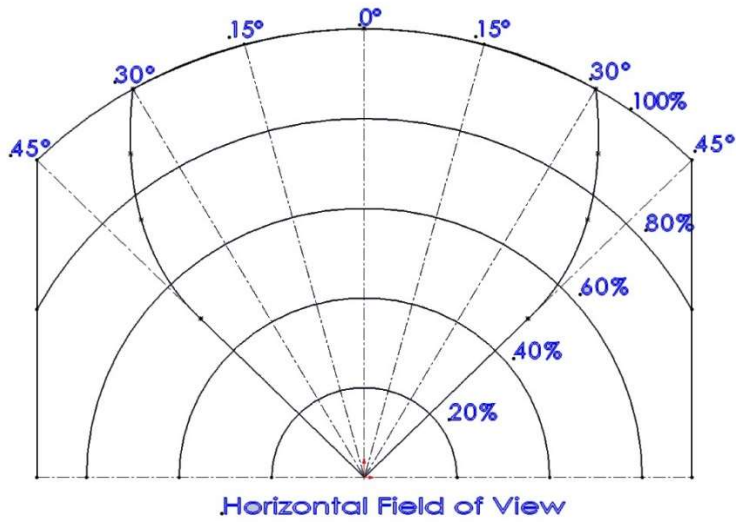
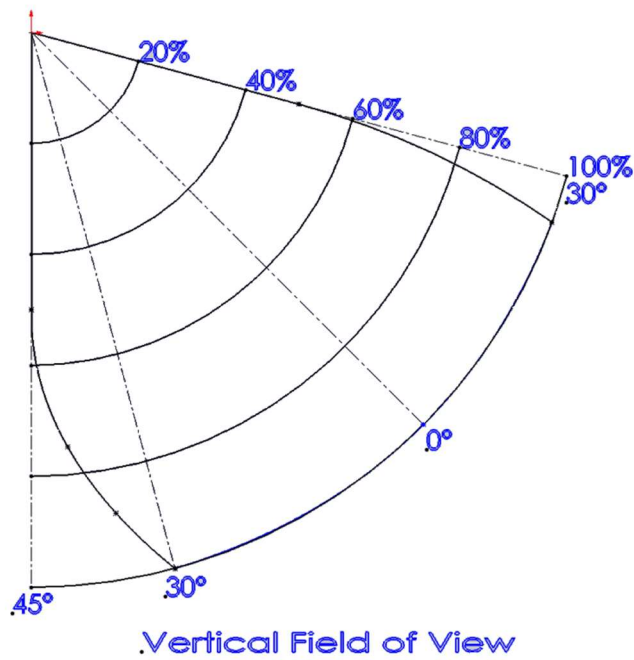

FIGURE 11 - HORIZONTAL FIELD OF VIEW
FIGURE 12 - VERTICAL FIELD OF VIEW
- The field of view of the detectors (See Figure 11 and Figure 12)